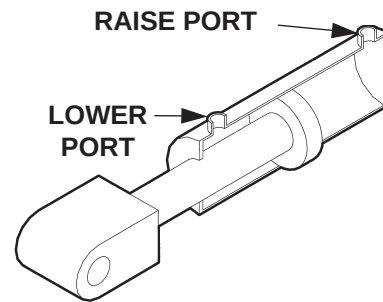

FIG. 43-1
5. Check the Hydraulic Cylinder. With the Platform on the ground, remove the hydraulic line from the Lower Port of the Cylinder (**FIG. 43-1**). Raise the Platform even with the bed. Allow pump motor to run two seconds more while you watch for hydraulic fluid at the Lower Port. A few drops of hydraulic fluid escaping the port is normal; however, if it streams out, Piston Seals are worn. Replace Seals.